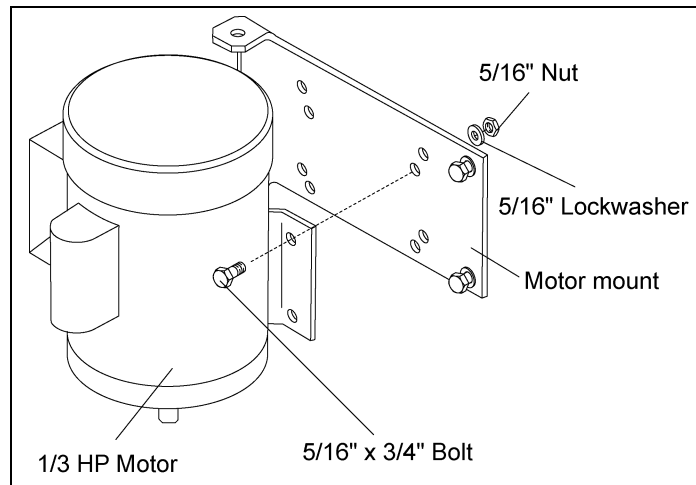

Figure 7DO
3. Remove belt guard from winch assembly. Attach motor mount assembly to the winch frame as shown in Figure 7DP using 5/16" carriage bolts supplied in hardware bag.
5. Install belt onto the two (2) pulleys and check the belt alignment.